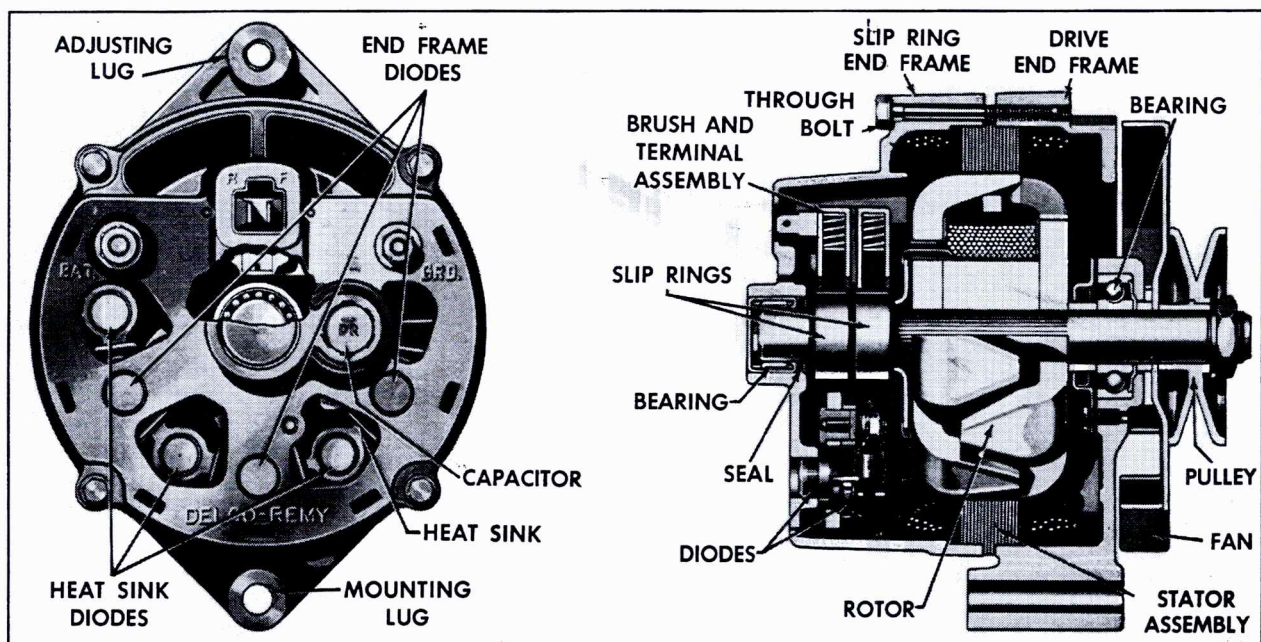

Fig. 6-24 Generator Cut-Away View
end frame to slip ring end frame Fig. 6-24.
11. Position the two end frames in relation to each other as shown in Fig. 6-24. Adjusting lug should be directly above "R" and "F" terminals.